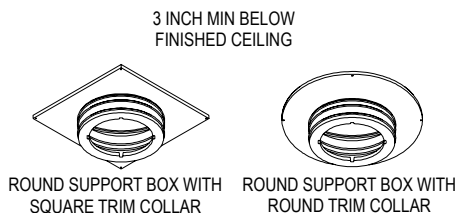
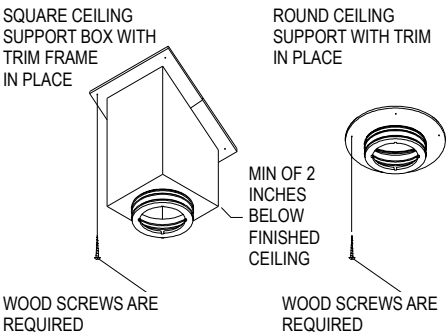
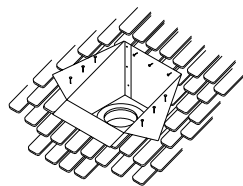

Figure 5
Figure 6
Figure 20
3. Install Support Box: For installation into a flat ceiling, there is the option of the Round Support Box, the Flat Ceiling Support Box, the Square Ceiling Support Box, or the Reduced Clearance Support Box. The Flat Ceiling Support Box is primarily used for Oil Appliances and comes unpainted. For the Square Ceiling Support Box and the Reduced Clearance Support Box, refer to the Square ceiling installation below. The Round Ceiling Support Box has the option of a square or round Trim Collar available (*Fig 5*). The bottom of the Round Support Box must extend at least 3 inches below the finished ceiling.
Level the Support Box and secure it to the framing using at least three 8-penny nails per side (min. of 12 total). Alternatively, you may use 1-1/2" #8 wood screws (min. of 12 total), instead of nails. Next, secure the Trim Collar (round or square) to the framing members using the (4) 1" long, round-head wood screws provided (**Fig 6**). For installation into a cathedral ceiling, you must use the Square Ceiling Support Box
and the two-piece Trim. The bottom of the square portion of the Support Box must be a minimum of 2-inches lower (round portion is an additional 3 inches lower) than the finished ceiling at the lowest side of the penetration (**Fig 5 & 6**). Level the Support Box and secure it to the framing using at least three (3) 8-penny nails per side (minimum of 12 nails total), or a minimum of (3) #8, 1-1/2" wood screws. Adjust the overlapping "U-shaped" Trim pieces so they cover the Support Box, and secure them to the framing members using the (6) 1-1/4" long, round head wood screws provided (**see Fig 6**).
3. Install Support Box: Slip the Square Support Box or Reduced Clearance Support Box into the framed opening so the square portion projects at least 2 inches below the finished ceiling and rafters (bottom of round portion is 5" below), and extends above the ceiling to framing or decking materials to which it can be nailed. Level the Support Box, and slit the corners to the roofline where they extend beyond it. Bend the flaps (created by the slitting) flush with the roof, and nail the Support Box to the roof or framing with at least three (3) 8-penny nails, or (3) 1-1/2", #8 screws, per side (**Fig 20**). Be sure to keep the Support Box level. Screw the trim sections into the ceiling (Fig 6).